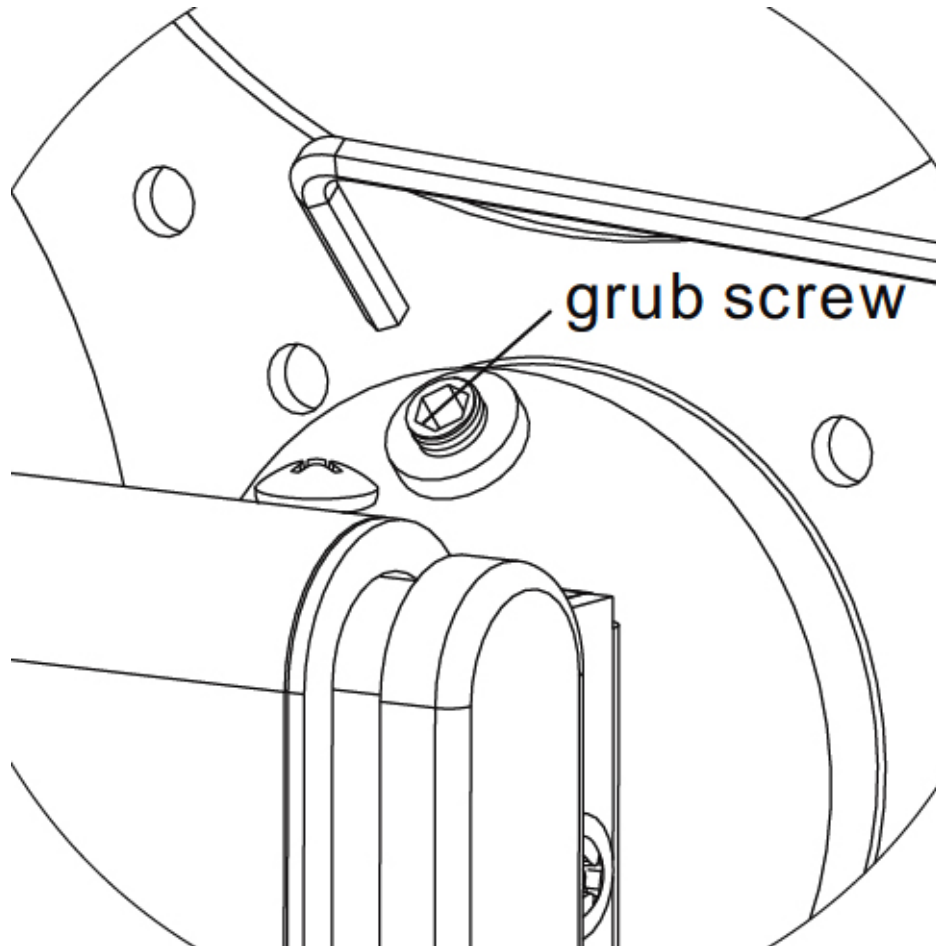

Figure 4b
2. Adjust the monitor's tilt angle, use the **Allen Key (o)** to loosen the **Grub Screw**, then tighten the Grub Screw to fix the tilt angle as shown in **Figure 4b**.